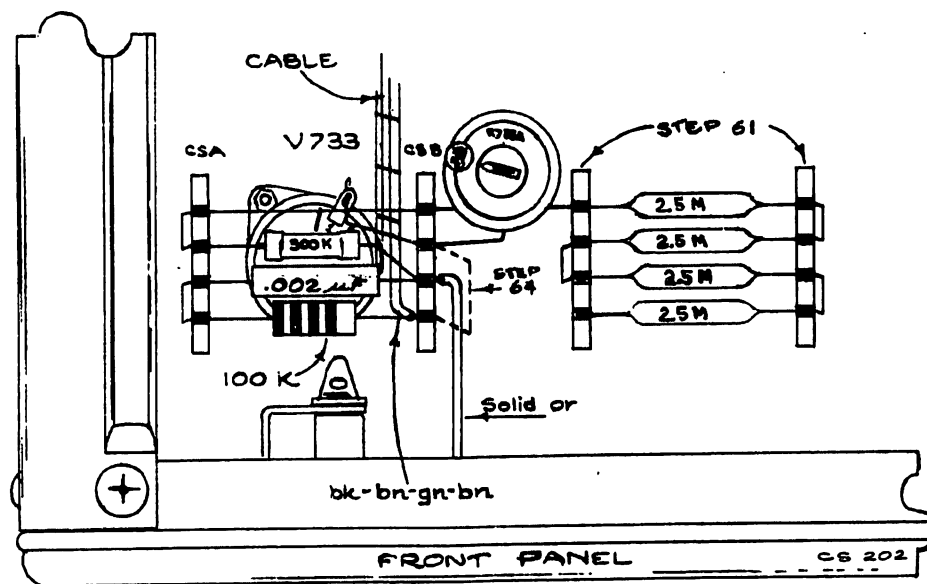

FIG. 12
- () 61. Insert four nylon spacers (from kit) in the holes just drilled and press the two 4-slot ceramic strips (from kit) into them. (See Fig. 12).
- () 64. Unsolder the solid orange, the two white-yellow wires, and the bare jumper wire from CSB (see Fig. 12).
- () 66. Unsolder the black-brown-green-brown wire from CSB and resolder it, as shown in Fig. 12.
- () 67. Resolder the solid orange wire to the point vacated by the black-brown-green-brown wire in step 66 (see Fig. 12).
- () 69. Wire all four ceramic strips, as shown in Fig. 12.